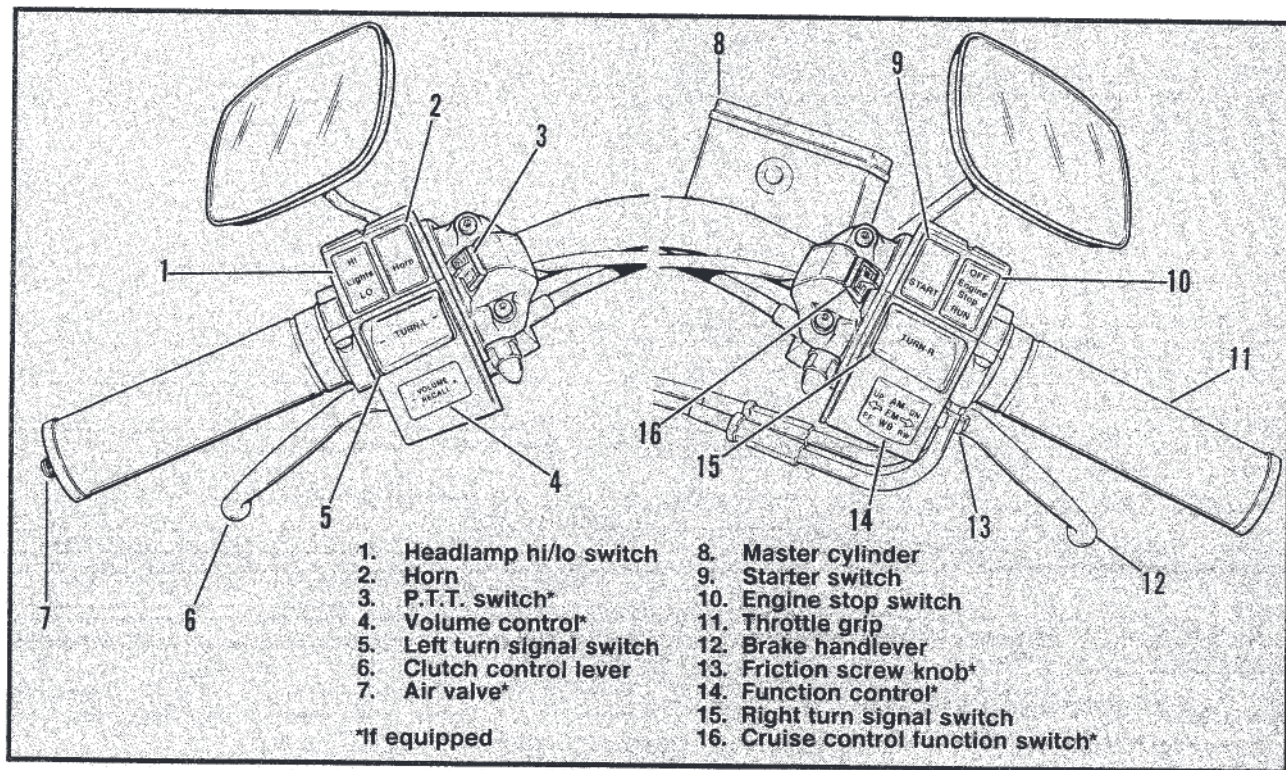

Figure 2. Handlebar Controls
See Figure 2. The electric starter switch (9) is located on the right handlebar control group. Put engine stop switch (10) in RUN position and transmission in neutral. Turn ignition ON and push the START switch to operate starter motor.
See Figure 2. Engine stop switch (10) is located on the right handlebar control. The engine stop switch turns ignition ON or OFF and should be used at all times to stop the engine, especially in an emergency. To stop engine, push switch to position marked OFF - then turn key to OFF.
See Figure 2. The throttle control grip (11) is located on the right handlebar control group. Turn control grip clockwise to close throttle; turn control grip counterclockwise to open throttle.
See Figure 2. The clutch hand lever (6) is located on the left handlebar where it is operated with the fingers of the left hand. Pull lever in against handlebar grip to disengage clutch; release the lever slowly to its outward position to engage clutch.
The brake pedal controls the rear wheel brake and is located on the right side where it is operated by the right foot. See Figure 2. The brake hand lever (12) controls the front wheel brake and is located on the right handlebar, where it is operated by the fingers of the right hand.
See Figure 2. The horn is operated by the horn switch (2) on the left handlebar control group.
See Figure 2. The headlamp dimmer switch (1) on the left handlebar controls the headlamp high and low beams.
Controls (Figures 2 and 5 and Table 2)